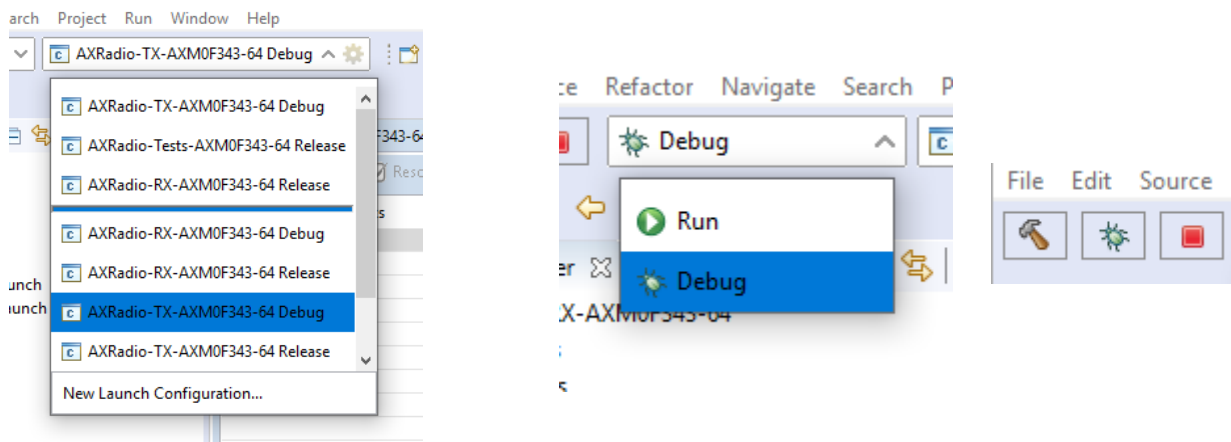

Figure 9 - Select Configuration and Build Project.
5. To build a project, as shown in Figure 9: